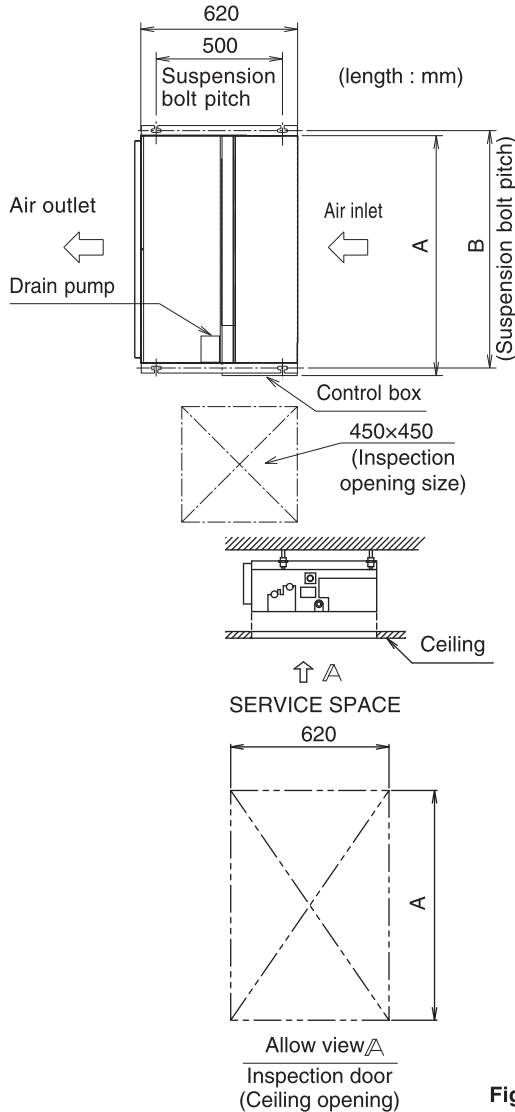

Fig. 2
(1) Confirm the positional relationship between the unit and suspension bolts. (Refer to Fig. 2)